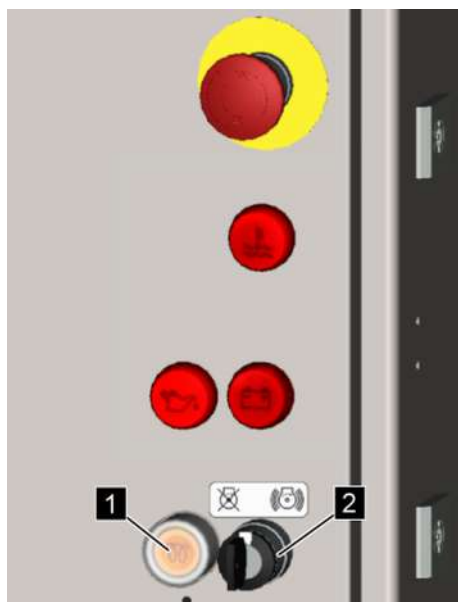

Fig. 47: Pre-heating and starting
2. → Press the illuminated push-button [preheat] (Fig. 47/1) and hold until it goes out.
3. → Start the diesel engine by turning and holding the key switch (Fig. 47/2) to  and release the toggle switch immediately when the diesel engine has started.